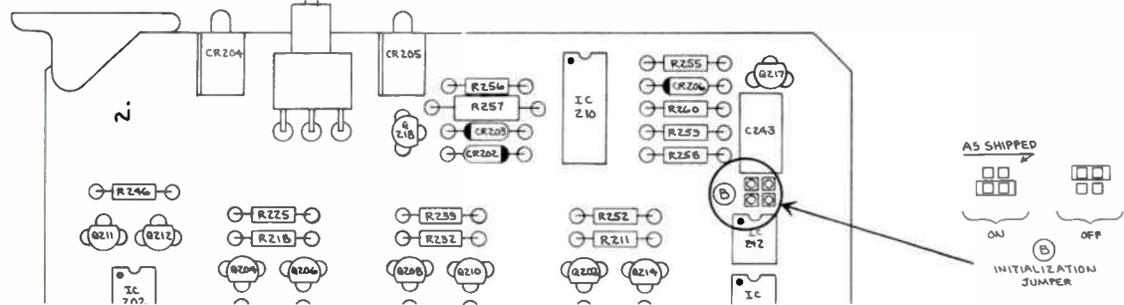

Fig. 3-5: CARD #2: POWER-UP JUMPER
5) **Loudness Controller:** Card #2 (the Loudness Controller) may be strapped to power-up either ON or OFF. As shipped, it powers-up ON. Move the jumper on Card #2 according to Fig. 3-5 below as necessary.